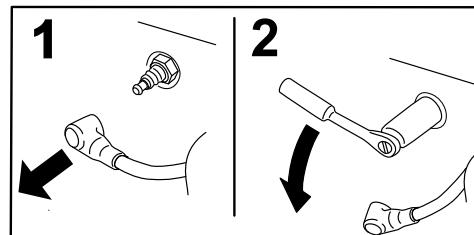

Figure 45
5. Disconnect the spark plug caps from the spark plugs (Figure 45).